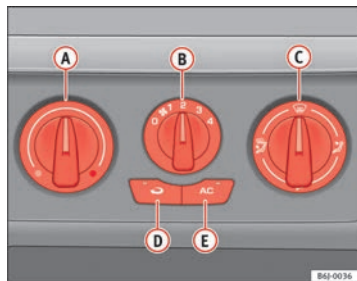

Fig. 93 Air conditioning controls on the dash panel
- Using the controls ⇒ Fig. 93 **A** and **C** and with the switch **B** you can adjust the temperature, the air distribution and the blower speed.